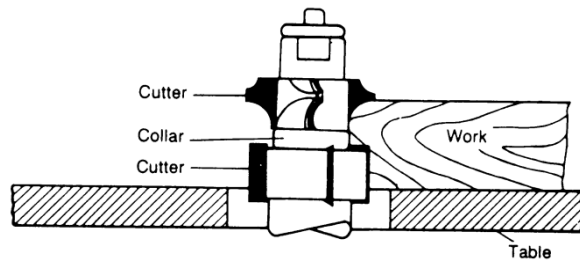

Figure 18
- The collar between cutters method, shown in Figure 18, has both the advantages and disadvantages of the first two methods. This method is used primarily where both edges of the work are to be shaped.